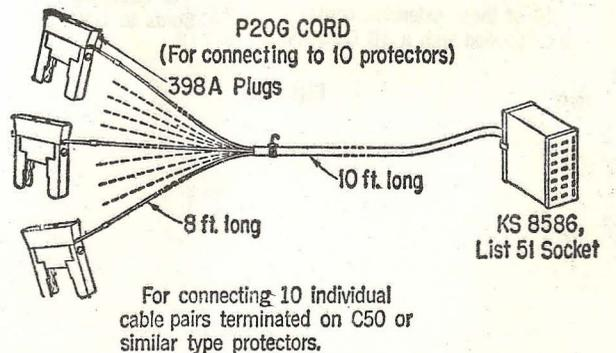

Fig. 10
4.08 P20G Cord: This cord is illustrated in Fig. 10.